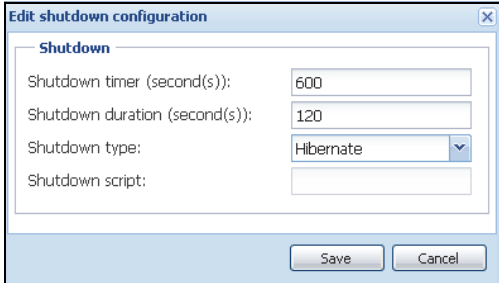

Figure 89. Edit Shutdown Configuration Dialog Box
- Figure 89 illustrates the Dell MUMC default configuration available from **Settings > Shutdown > Edit Shutdown Configuration**.